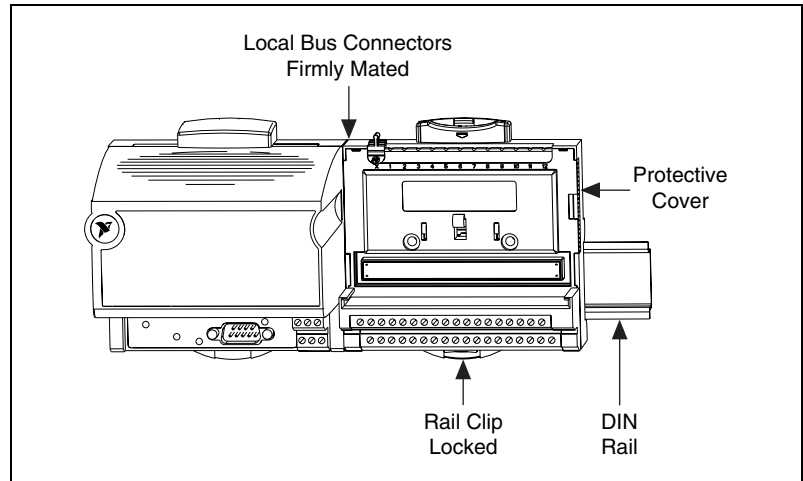

Figure 2-3. Connecting Terminal Bases
4. Place the protective cover (from the bag of accessories that came with your FP-3000) onto the local bus connector of the last terminal base on the bank, as shown in Figure 2-3.